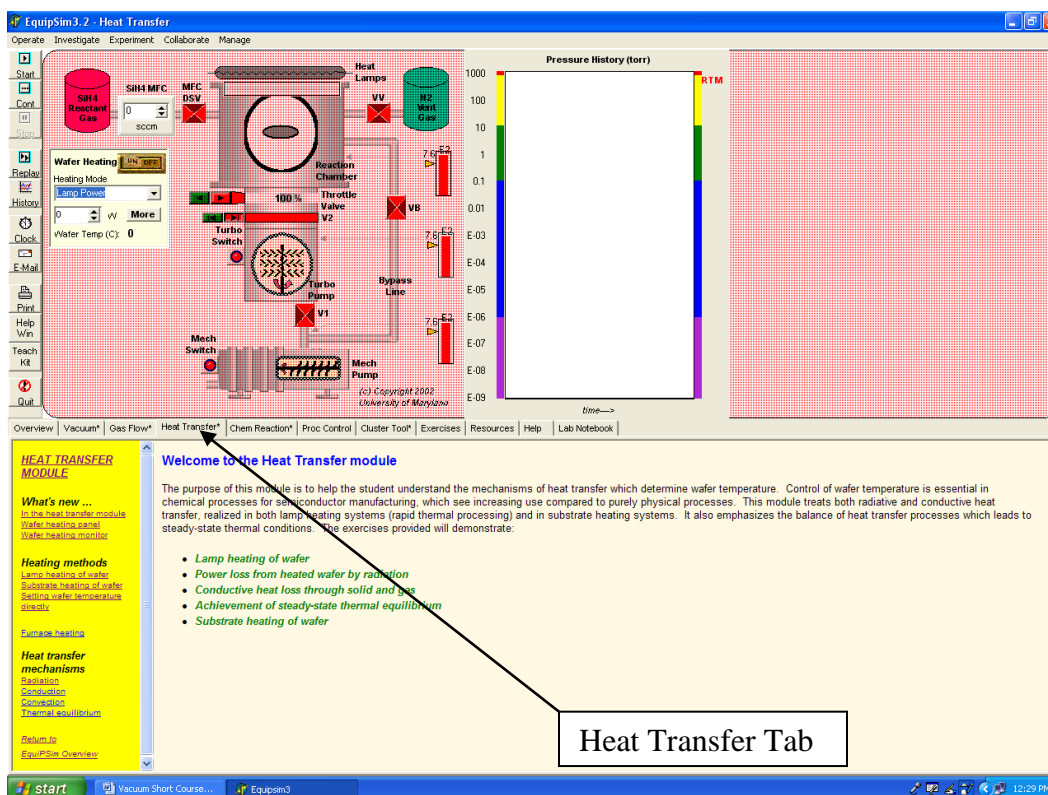

Figure 4 Main screen of the Heat Transfer exercise.
- a. The window below in Figure 4 should appear next.